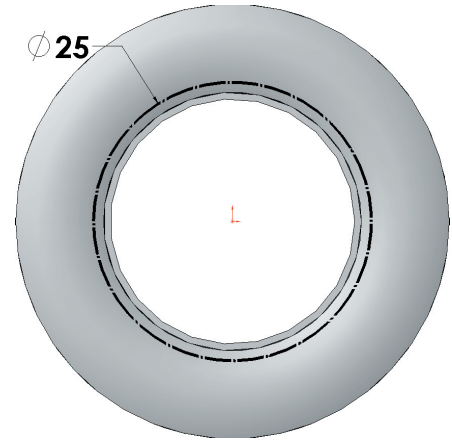

Fig. 14
Step 6. Click **Smart Dimension**  (S) on the Sketch toolbar.
Step 7. Dimension **diameter 25**, **Fig. 14**.